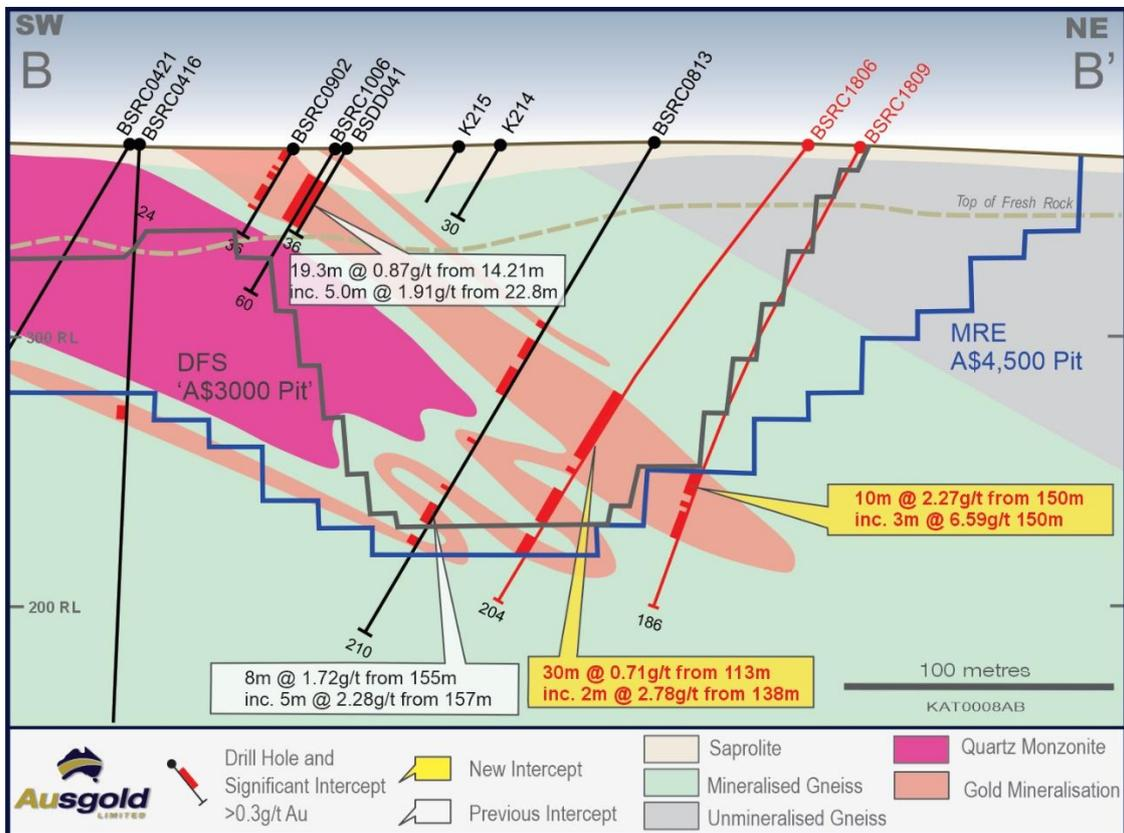

Figure 4 – Cross-section B-B' (6,287,800mN) across the Jinkas -White Dam Lodes with Resource Drilling and Pits
- **10m @ 2.27g/t Au from 150m including 3m @ 6.59g/t Au from 150m in BSRC1809 (Figure 4)**